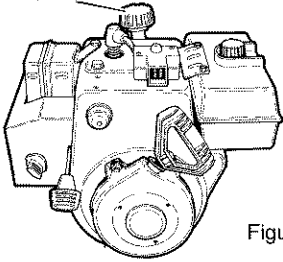

Figure 21
Check the crankcase oil level before starting the engine and after each five (5) hours of continuous use. See Figure 21. Add S.A.E. 5W30 motor oil as needed. Tighten fill cap/dipstick securely each time you check the oil level.